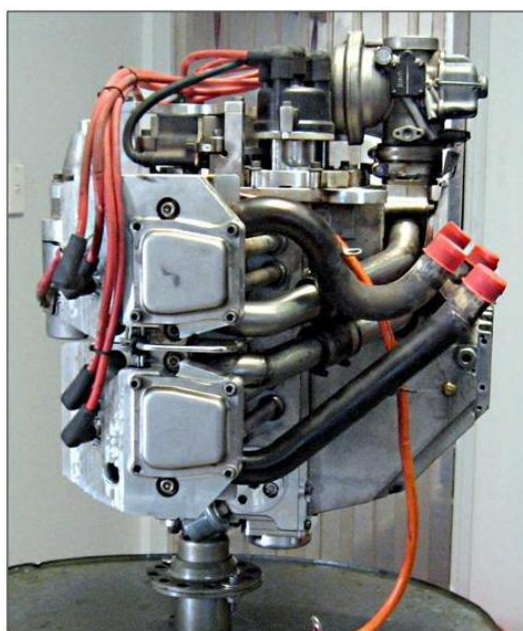

Figure 44 – Engine Stand
- In our engine workshop we use a spare propeller flange bolted to the workbench. The propeller flange on the engine is then bolted to that flange so that the engine is held in an upright position as shown in Figure 44.